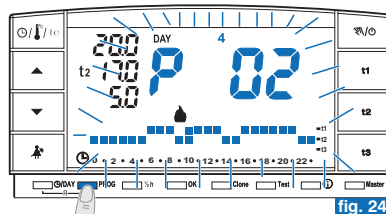

fig. 24
- Press the **PROG** key: the program in use will appear on the display and the scrolling of the settings of each day (or a number of days in the P01 program that has not yet been modified) will occur automatically (fig. 24).